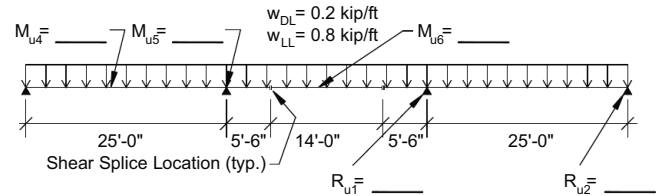

Figure 2
- Use Table 3-22b to calculate the maximum positive and negative moments (LRFD) for each span and the reaction shown in Figure 2. The beams on the exterior bays cantilever over the interior supports.
- Repeat question 2 based on the results from Figure 2 and using the same assumptions.